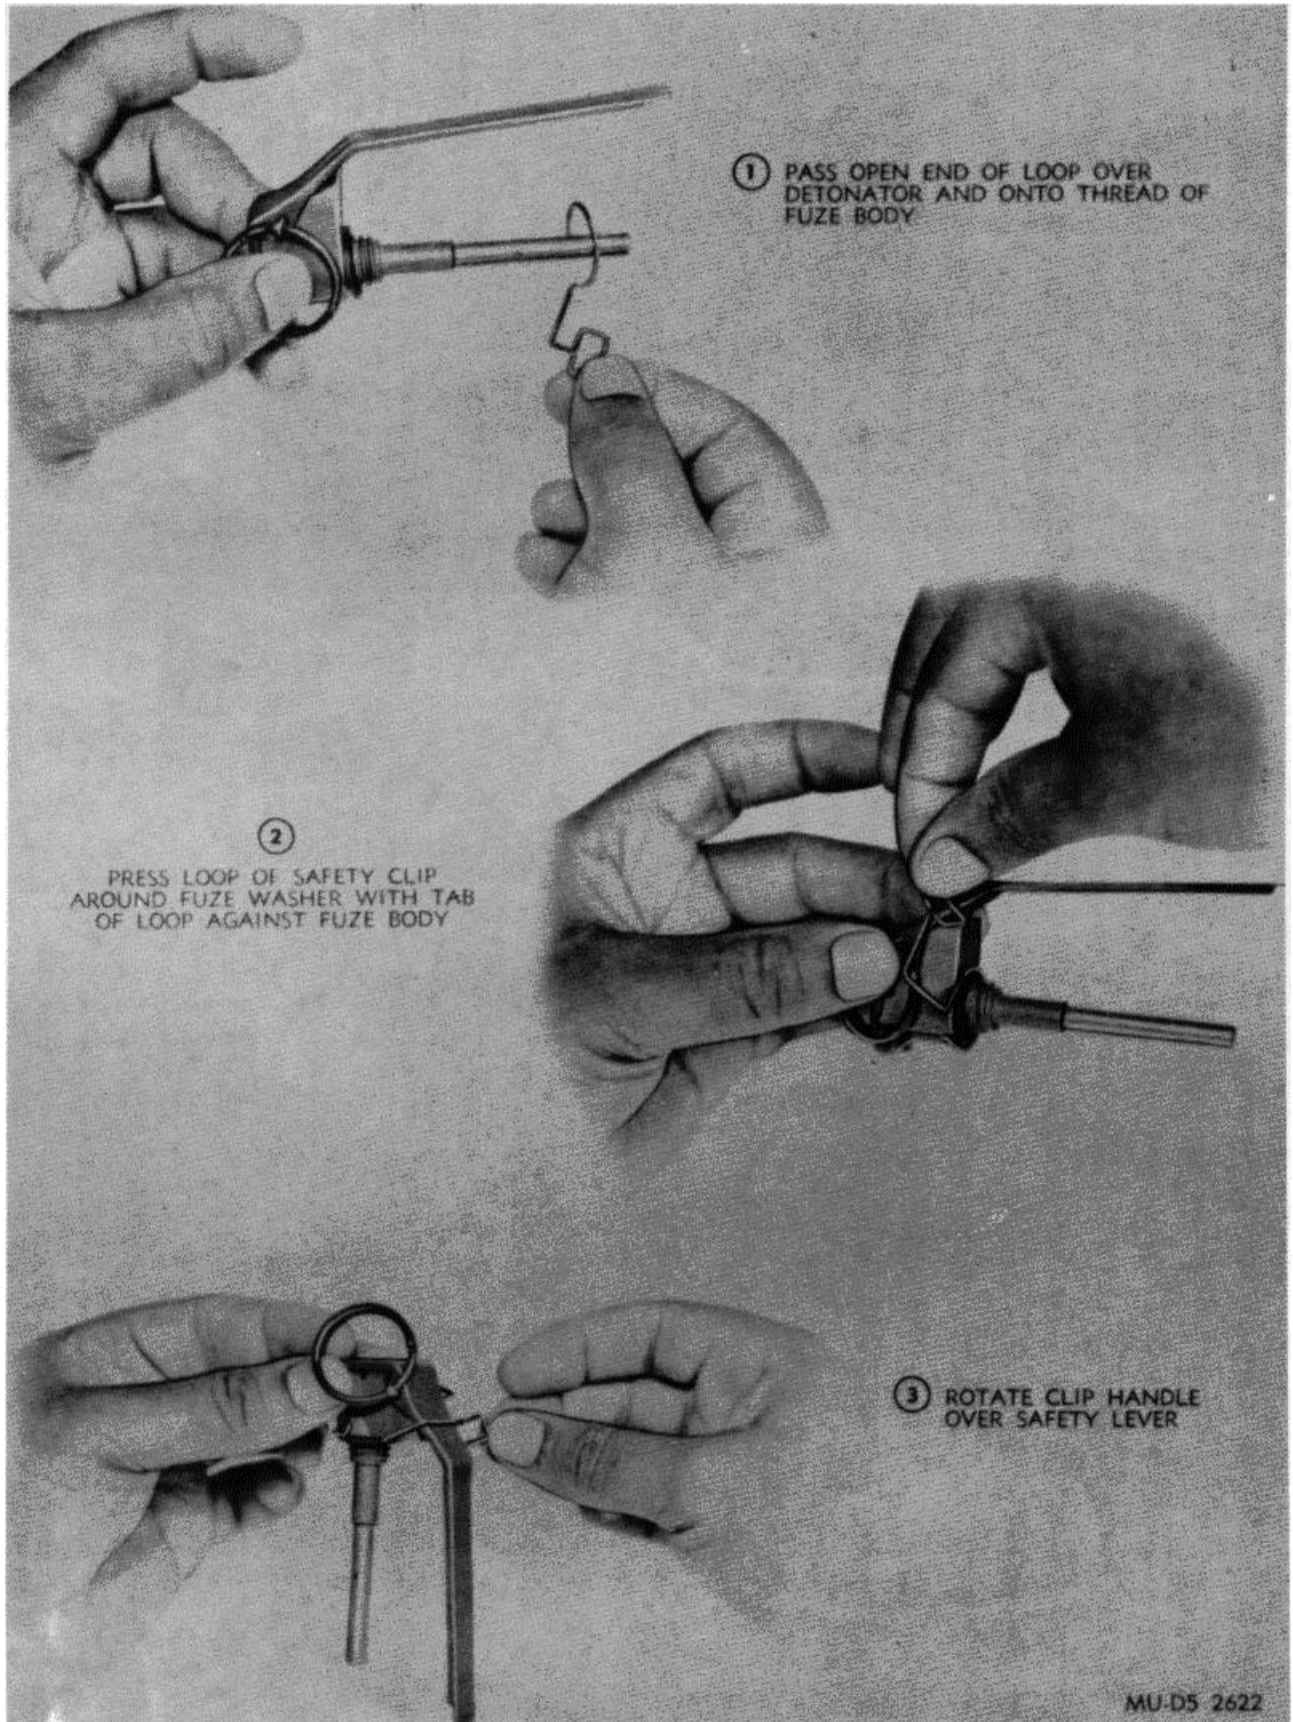

Figure 2-6. Assembly of safety clip to fuzes M206 series.
1. Pass open end of loop over detonator and onto thread of fuze body (1, fig. 2-6).
2. Press loop of safety clip around fuze washer with tab of loop against fuze body (2, fig. 2-6).
3. Rotate clip handle over safety lever (3, fig. 2-6).